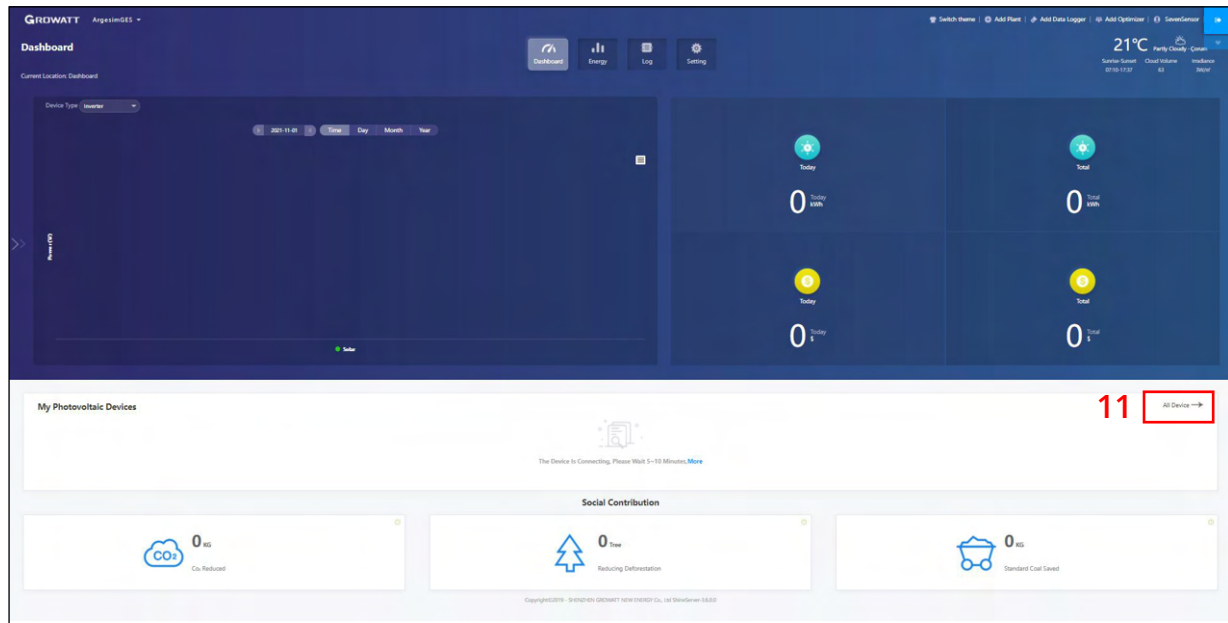

Figure 7: ShineServer Dashboard
Step 11 : In the "**Dashboard**" screen, choose your PV plant then go to "**All Devices**" in "**My Photovoltaic Devices**" section as shown in Figure 7.